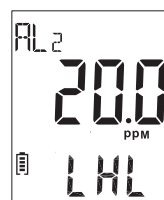

Figure 2
- ①Press the "▲" or "▼" keys, numbers will add or minus one per key in, set to the desired value.
- ②After completed the first step, also need to set other bit. Bit selection by pressing the "T/R" key.
- 3)After first setup is completed and then press the "MODE" key again will enter the alarm limit (LHL) value of (AL2)level 2 setting method as above. (as figure 2 showed)